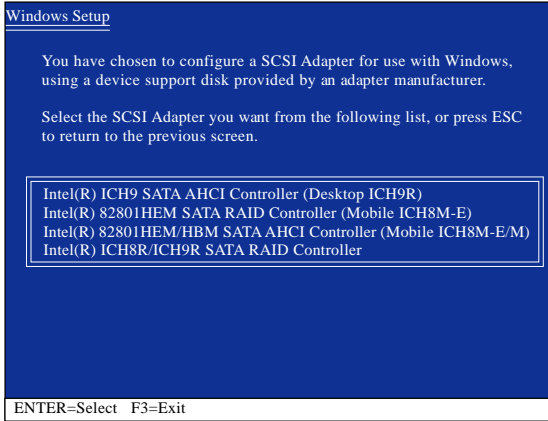

Figure 3
When Setup correctly recognizes the Intel ICH9DO SATA RAID/AHCI driver in the floppy disk, a controller menu similar to Figure 3 below will appear. Use the arrow keys to select one of the items displayed and press <Enter>. If you set the **SATA RAID/AHCI Mode** item in BIOS Setup to RAID mode, select **Intel(R) ICH8R/ICH9R SATA RAID Controller**. (Select **ICH9 SATA AHCI Controller (Desktop ICH9R)** for AHCI mode.)